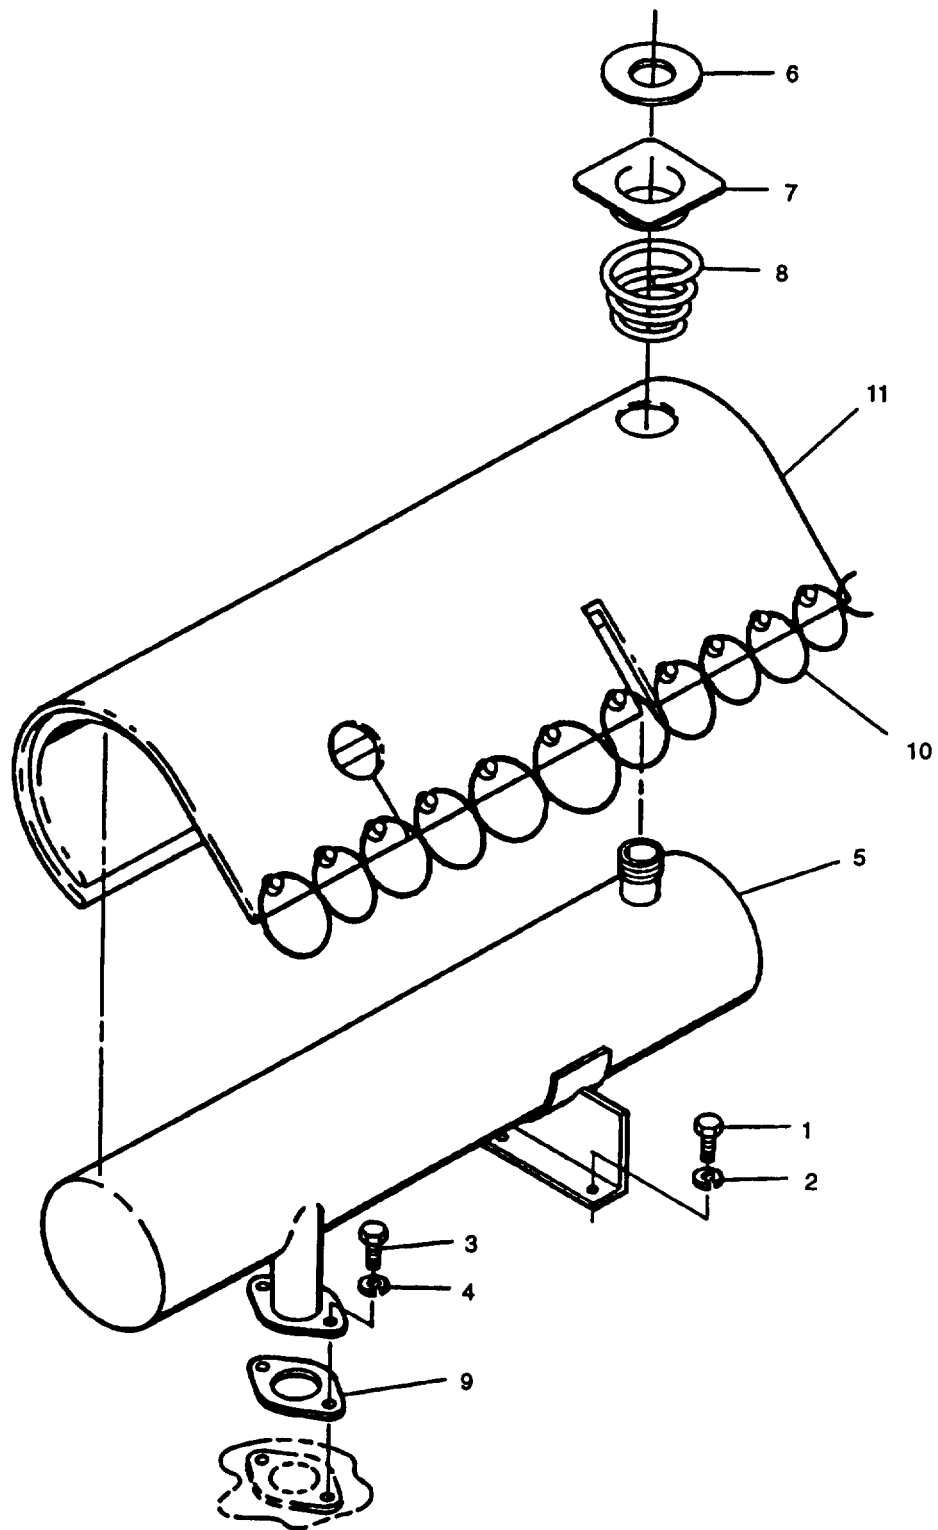

FIGURE 2-18. Muffler
- c. Remove bolts (1, FIGURE 2-18) and lockwashers (2) at intake manifold.
- d. Remove bolts (3), lockwashers (4), muffler (5), exhaust seal (6), retaining plate (7), and exhaust seal spring (8) from generator set.
- e. Remove gasket (9) from exhaust manifold.
- f. Unlace safety wire (10) and remove wrap (11) from muffler (5).
- a. Install muffler wrap (11, FIGURE 2-18) on muffler (5) with safety wire (10) in a criss-crossing pattern.
- b. Install gasket (9), exhaust seal (6), retaining plate (7), exhaust seal spring (8), and muffler (5) at exhaust manifold with lockwashers (4) and bolts (3).
- c. Secure other end of muffler (5) with lockwashers (2) and bolts (1).